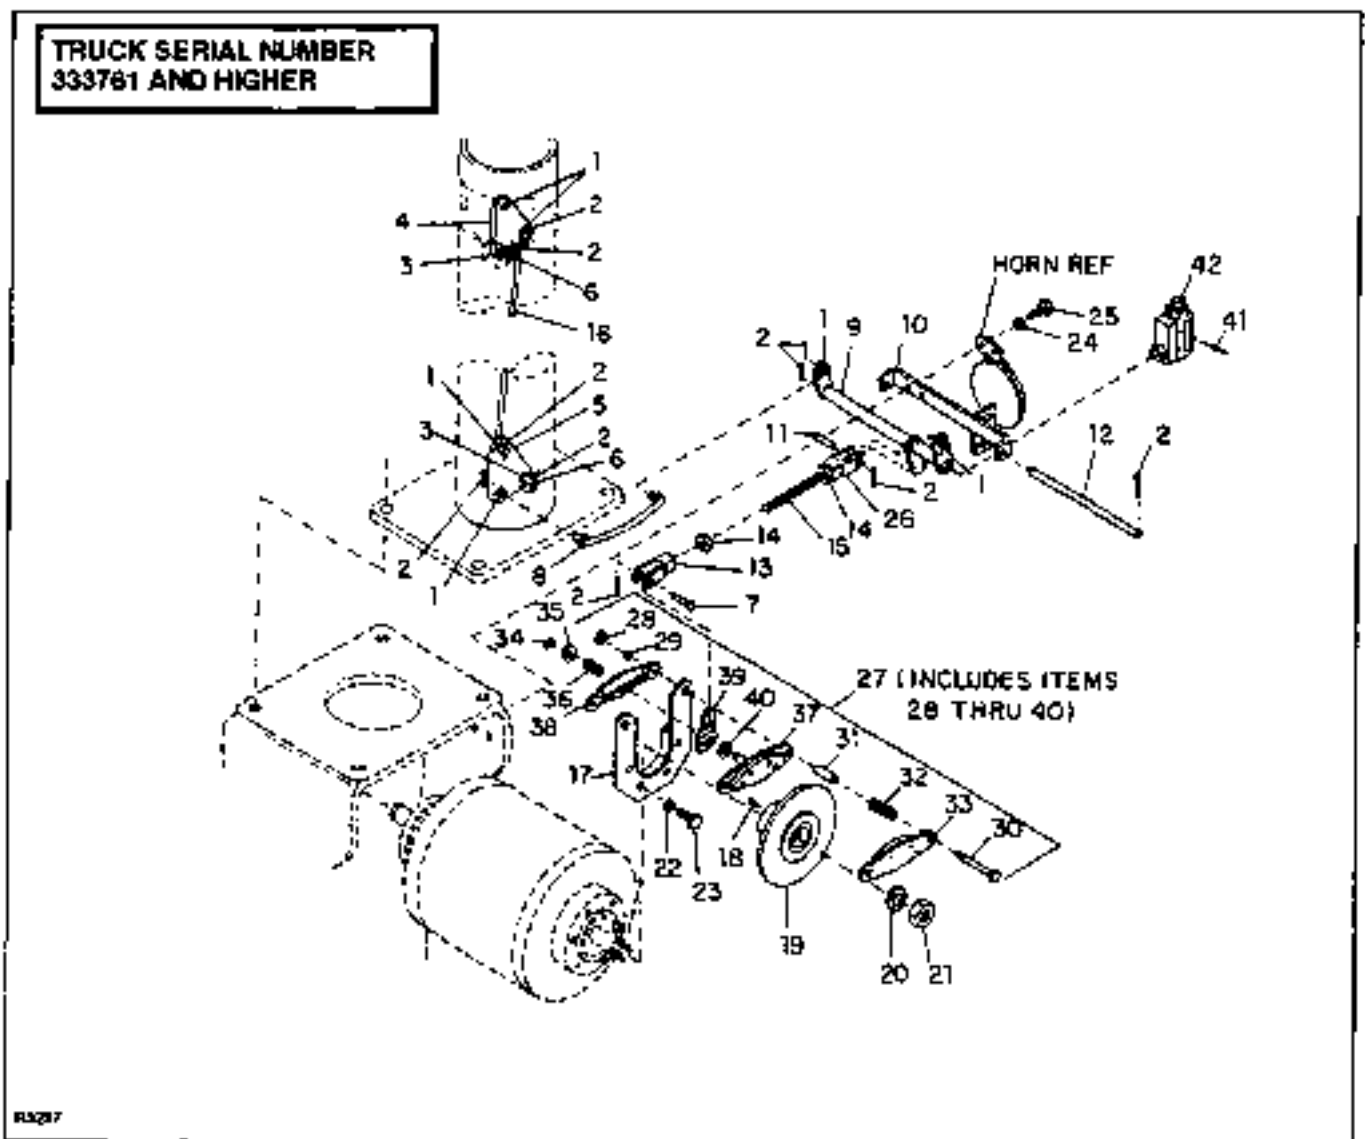

Figure 6-4. Parts Replacement for Truck Serial Numbers 333761 and Higher
7. Turn the clevis (3) to adjust the brake.
8. Connect the clevis (3) to the lever assembly with pin (2), but do not insert the cotter pin (1) at this time.
10. Disconnect the clevis (3).
13. Tighten the lock nut (4) and secure the pin (2) with the cotter pin (1).
15. Check that the brake lever has activated the dead-man brake switch (42, Figure 6-4) and open the control circuits. If the switch is not activated, go to step 16. If it is activated, go to step 18.
16. Adjust the position of the dead-man switch by loosening the screws (41) attaching the switch to the
5. Remove the cotter pin (2, Figure 6-4) and link pin (7), then swing the clevis (13) up out of the way.
6. Remove two nuts (28) and lockwasher (29).
7. Carefully pull the bolts (30) just enough to clear the mounting plate weldment (17) while you hold together the remaining parts of the disc brake assembly (27), then remove the assembly.
8. Remove the bolts (30), spacers (31), springs (32), and brake pad (33).
9. Remove the retaining C-ring (34), washer (35), spring (36), bracket (38), lever (39), and washer (40) from the brake pad (37).
11. Assemble the washer (40), lever (39), bracket (38), spring (36), washer (35), and C-ring (34) to the brake pad (37).
12. Assemble the brake pad (33), spacers (31), and springs (32) to the two bolts (30).
13. Slip the parts assembled in step 11 onto the mounting plate weldment (17) and hold them so the bolt holes are aligned.
14. Insert the bolts (30) through pad (37) and bracket (17), so the threaded portion of the bolts passes completely through.
15. Assemble the two lock washers (29) and nuts (28) to the bolts (30).
5. Remove the cotter pin (2, Figure 6-4) and pin (7), then swing the clevis (13) up out of the way.
6. Remove the two nuts (28) and lock washers (29).
8. Remove the nut (21) and lock washer (20).
9. Remove the disc assembly (19).
10. Remove the key (18).
11. Install new disc assembly with key (18), lock washer (20) and nut (21).
12. Assemble the brake pad (33), springs (32), and spacers (31) to the two bolts (30).
13. Slip brake pad (37) with attached parts onto the mounting plate weldment (17) and hold it so the bolt holes are aligned.
14. Insert the bolts (30) through the pad (37) and bracket (17), so the threaded portion of the bolts passes completely through.